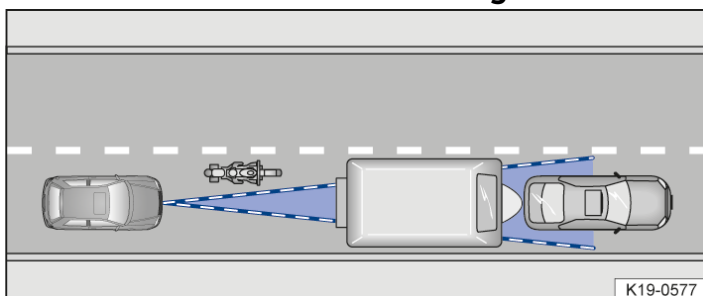

Fig. 3 Narrow vehicle.
- If there are vehicles that are driving close to your vehicle but outside the sensor range, such as motorcycles → *fig. 3*.